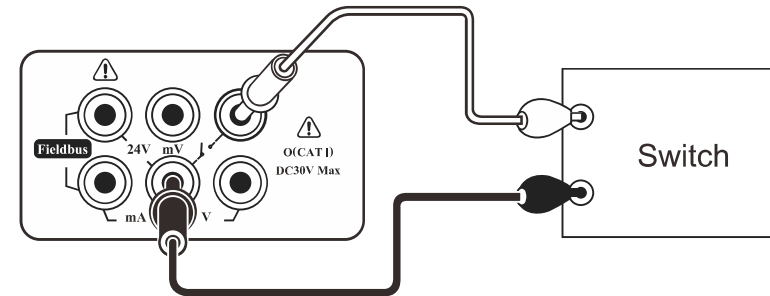

Fig. 3-7 Switch measurement
3. Connection: refer to Fig. 3-7.